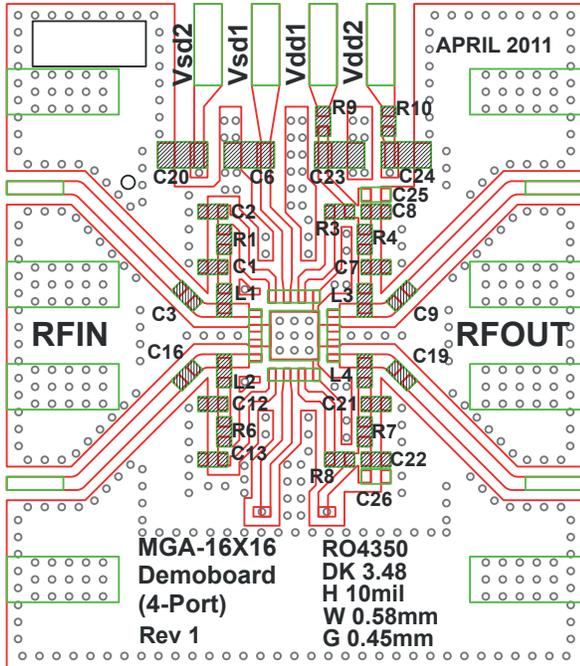
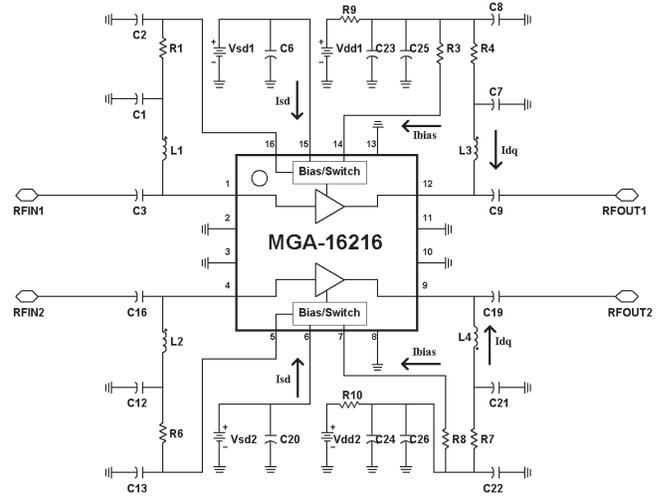

Figure 5. Demo Board Layout Diagram
Figure 6. Demo Board Schematic Diagram
4. Refer to Figure 6 for more details.
7. Bias to each LNA is adjustable using R3 and R8 (see Figure 6). Increasing R3 and R8 will reduce bias current (Idd) and vice-versa.
RF performance at $T_A = 25^\circ\text{C}$, $V_{dd} = 4.8\text{V}$, $I_{dd} = 52\text{mA}$, LNA mode, measured on demo board in Figure 5. Signal is CW unless stated otherwise. Application Test Circuit is shown in Figure 6 and Table 1. IIP3 test condition: FRF1-FRF2 = 1 MHz with input power of -20 dBm per tone.
2. Rbias is R3 and R8 from Figure 6.